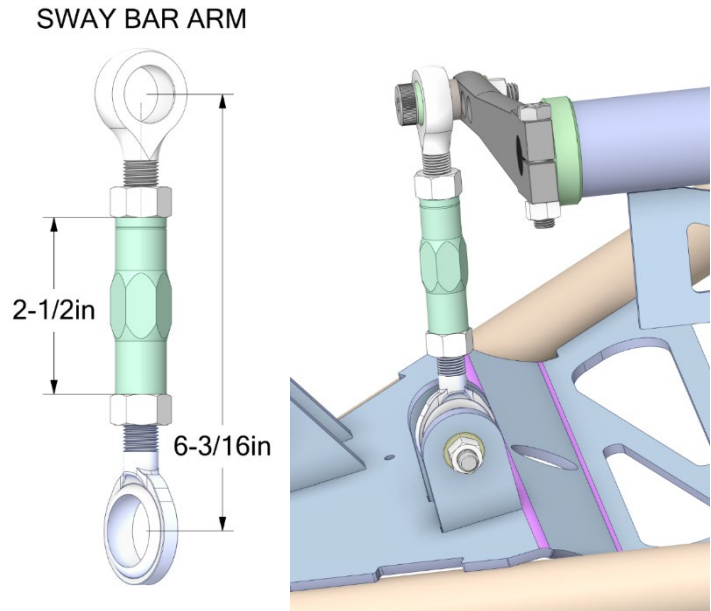

Figure 19: Two models of the sway bar assembly
- Prepare the sway bar link. Refer figure 19.